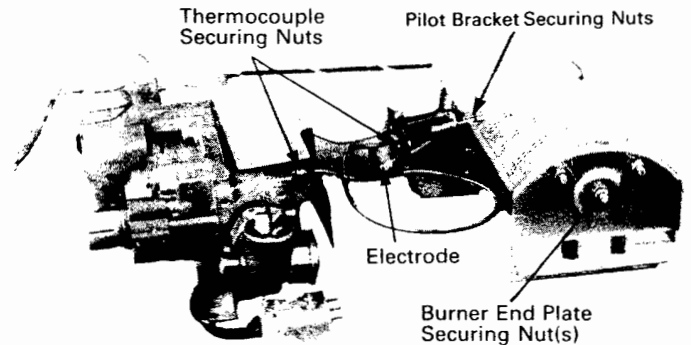
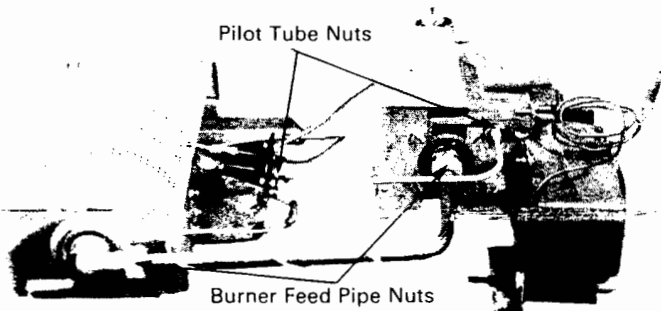

Fig. 18. Burner and Controls (1)
Fig. 19. Burner and Controls (2)
12. Clean the burner as follows; (Fig. 18 and 19).
Thermocouple (Fig. 18)
Spark Electrode (Fig. 18)
Piezo Unit (Fig. 19)
Burner (Fig. 18 and Fig. 19)